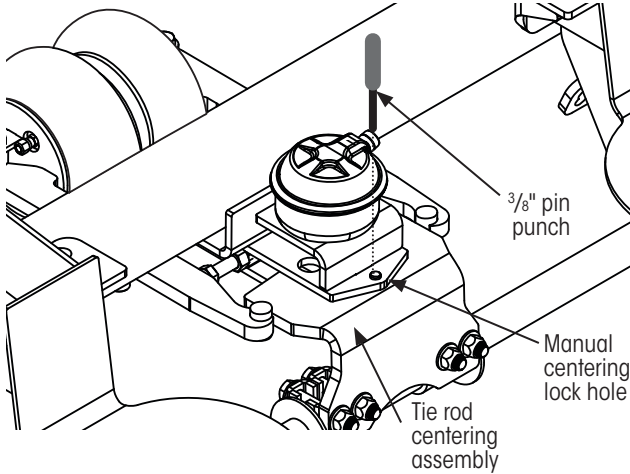

Figure 28: Locking wheels to straight position
3. **Center wheels and insert** a 3/8 inch pin punch (or equivalent) into manual centering lock holes, as shown in Figure 28.
5. **Remove** dowel pin from the centering lock hole (Figure 28).